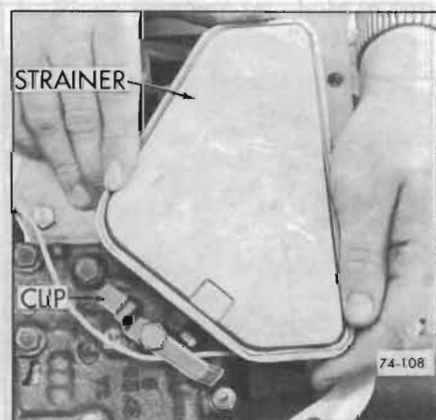

Figure 74-344
10. Install oil strainer. See Figure 74-344.
12. Install fourteen (14) oil pan attaching bolts. Torque bolts to 10-16 lb. ft.